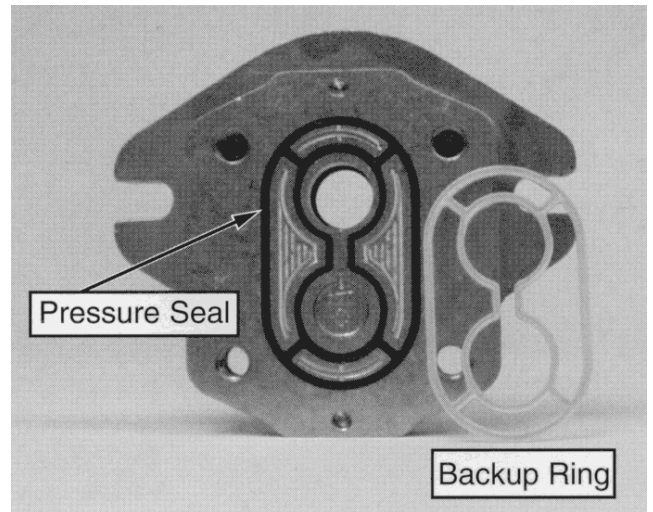

Figure 55
8. Carefully remove and discard O-rings, pressure seals and back-up rings (Fig. 55) from motor. Do not cause any damage to the machined grooves during the removal process.